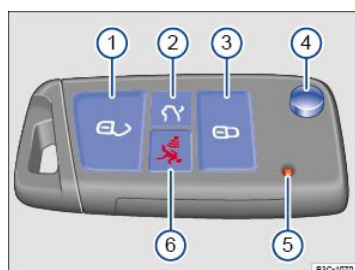

Fig. 52 Remote control vehicle key with panic button (vehicles without remote start).
Key to ⇒ Fig. 52 :
Pressing button → Fig. 52④ releases the key bit and folds it out.
Press the panic button → Fig. 52⑥ only in emergencies! After pushing the panic button, the horn will sound and the turn signals will flash. Press the panic button again or press the  button on the remote control vehicle key to switch off the panic feature.